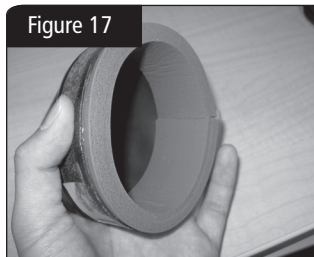

Figure 17
6. Stretch the wrist seal jig until the ends meet to form a cylindrical shape. See Figure 17.